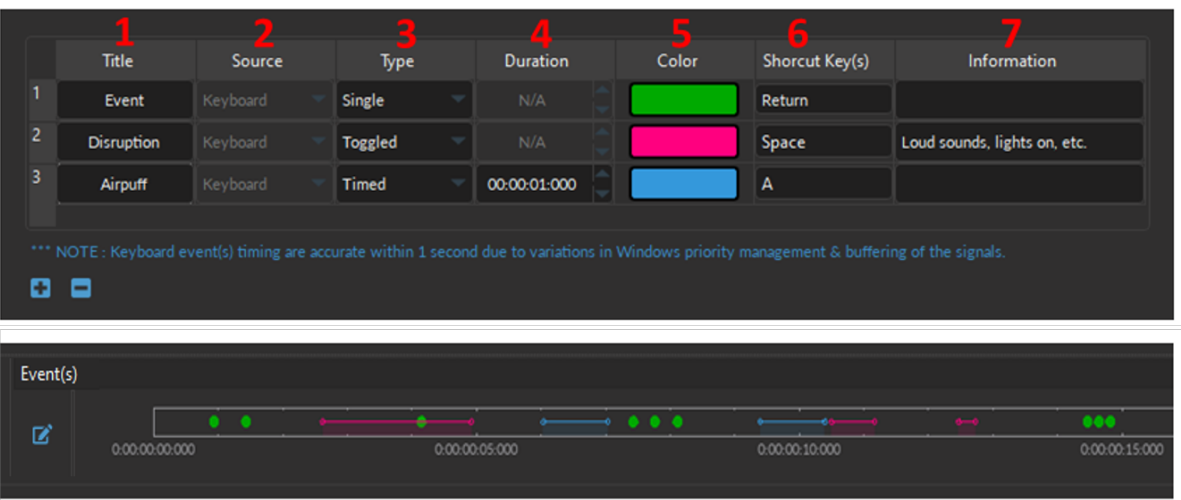

Figure 11.62: Channel(s) configuration window, Event(s) channel
The following are the configurable parameters of a **Keypress Event**, per Fig. 11.62:
1. The **Title** (Fig. 11.62, 1) allows you to give a name for the Keypress event.
2. The **Source** (Fig. 11.62, 2) is by default *Keyboard*. However, when a DIO channel was added to the configuration and set in *Input Mode*, it is possible to select this DIO as being the source of the created Event.
3. Three **Types** of Event(s) (Fig. 11.62, 3) can be specified with the drop-down list:
4. The **Duration** (Fig. 11.62, 4) is only used for the **Timed** Event type to specify the predetermined amount of time a Keypress Event will span. The duration is set in hh:mm:ss:zzz.
5. Select the **Color** field (Fig. 11.62, 5) to open the **Select Color** window. Basic colors are provided, in addition to custom colors that can be created and stored.
6. The **Shortcut Key(s)** (Fig. 11.62, 6) can be any keyboard key, including space bar, enter, backspace, any letters, number, and special characters (*, !, ? etc.). To specify the key, click inside the *Shortcut Key(s)* cell, then press the keyboard key of choice. If a key is properly set, it will appear in the *Shortcut Key(s)* cell (as in Fig. 11.62, column 6).
7. The **Information** column (Fig. 11.62, 7) provides space to make notes or write a short description of the Event.